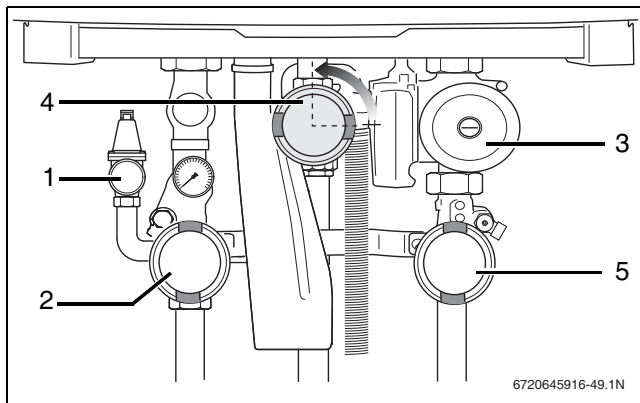

Fig. 53 Open the gas valve
- ▶ If 0.5 psi (34.45 mbar) or less, slowly open the gas valve by pushing on the gas valve and turning it ¼ rotation in a counter-clockwise direction (→ fig. 53). The gas valve is open when it is in the vertical position.